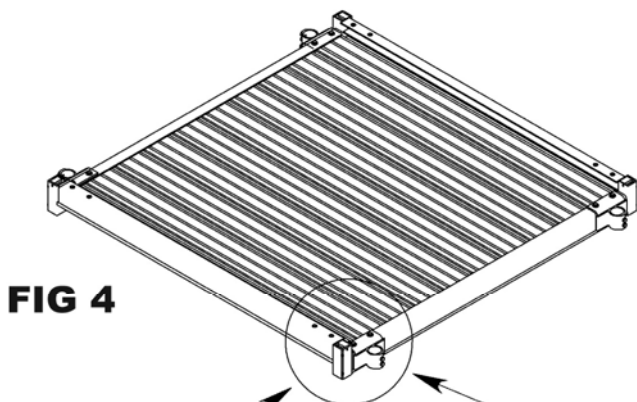

FIG 4
- iii) Position the platform saddle bracket over the threaded inserts located on each outside corner of the platform (FIG 4).